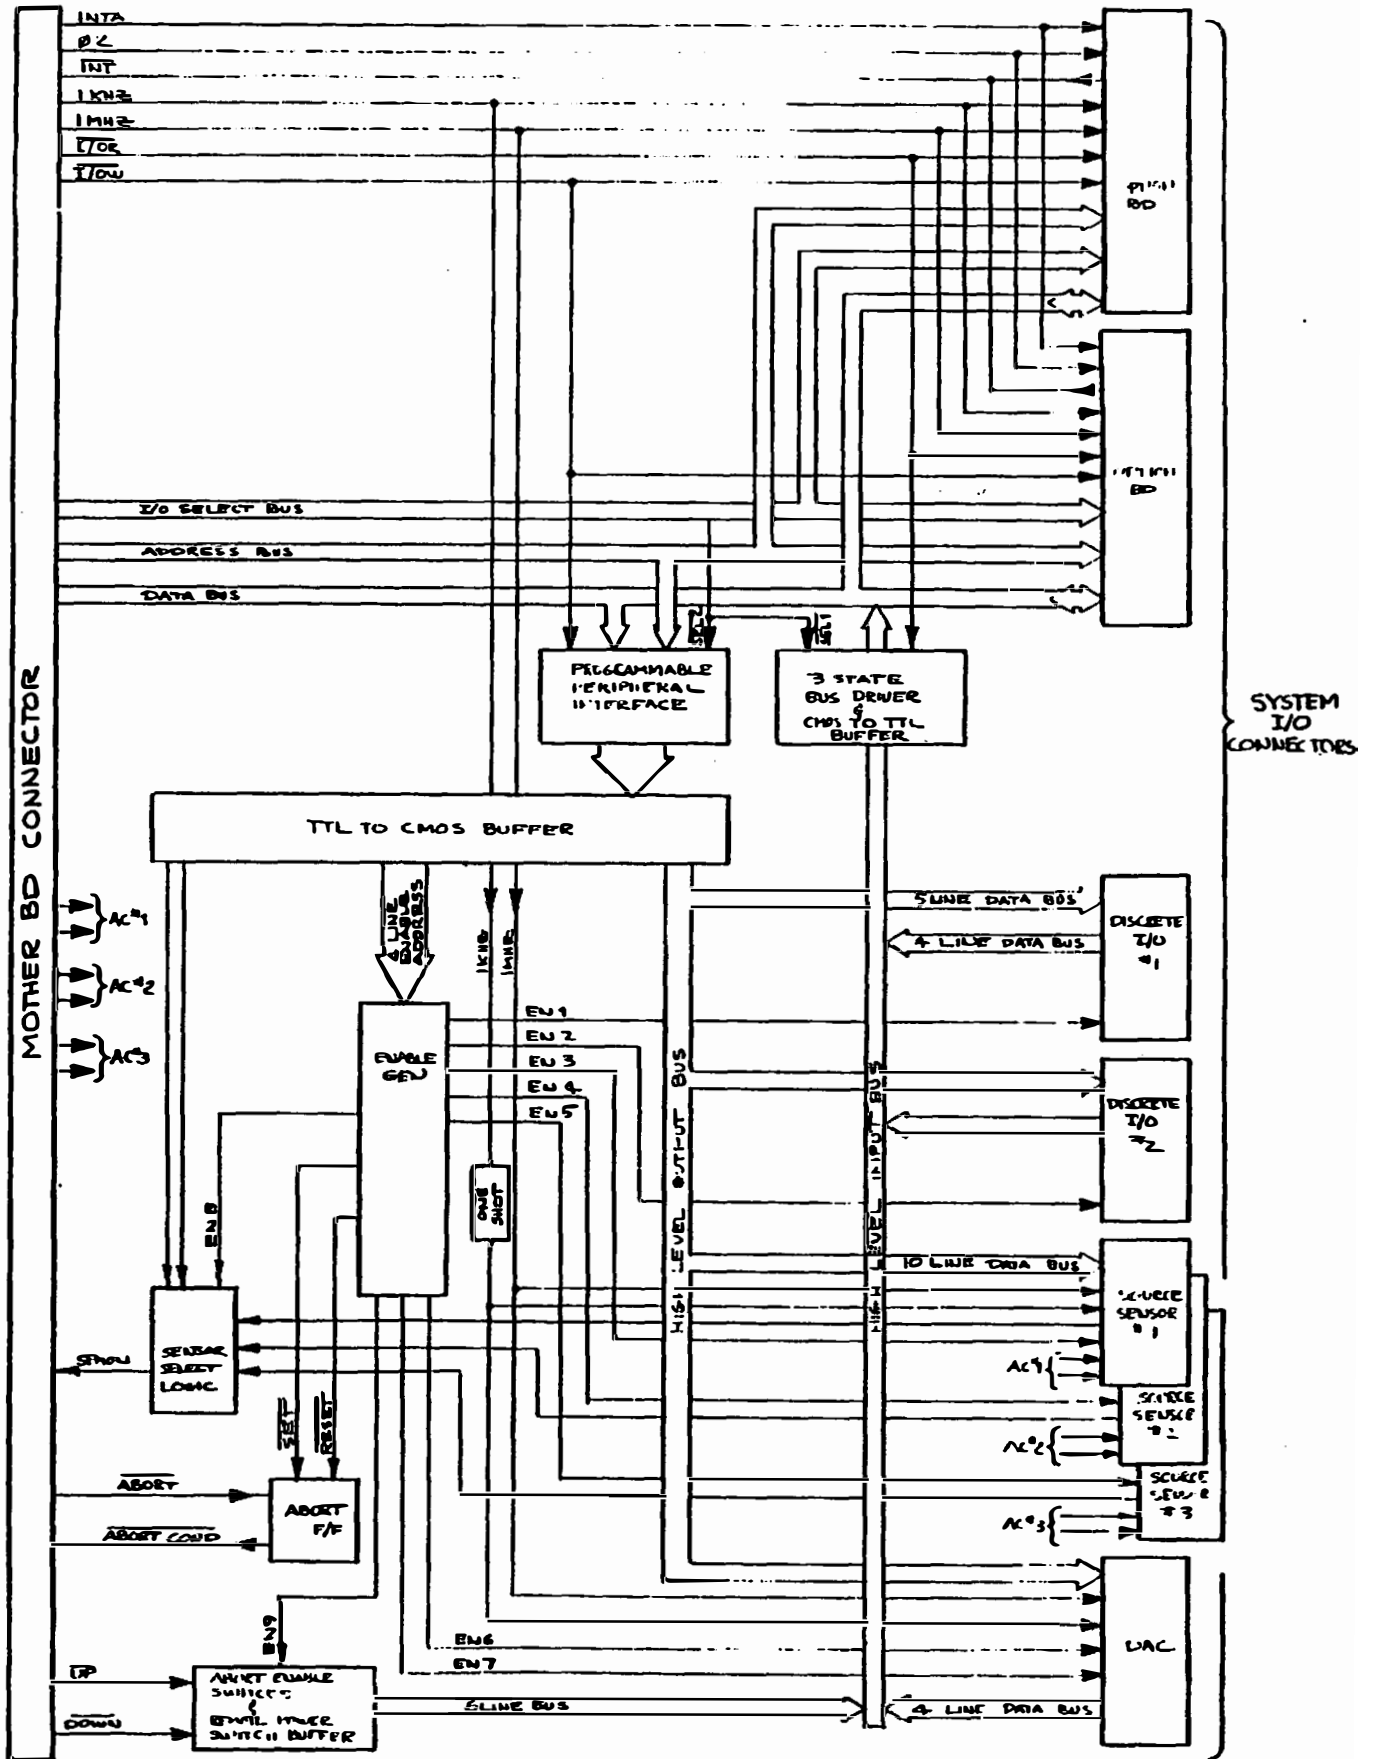

Figure 8-4 I/O Interface Board, Block Diagram
- c) I/O INTERFACE BOARD: The primary function of the I/O Interface board is to provide a physical interface to the individual input/output cards and, in order to provide improved noise immunity at the system interface, to convert the high speed 5-volt TTL logic levels on the mother board to slow 12-volt CMOS logic levels prior to routing them to the input/output cards. A block diagram of the I/O Interface board is shown in figure 8-4.